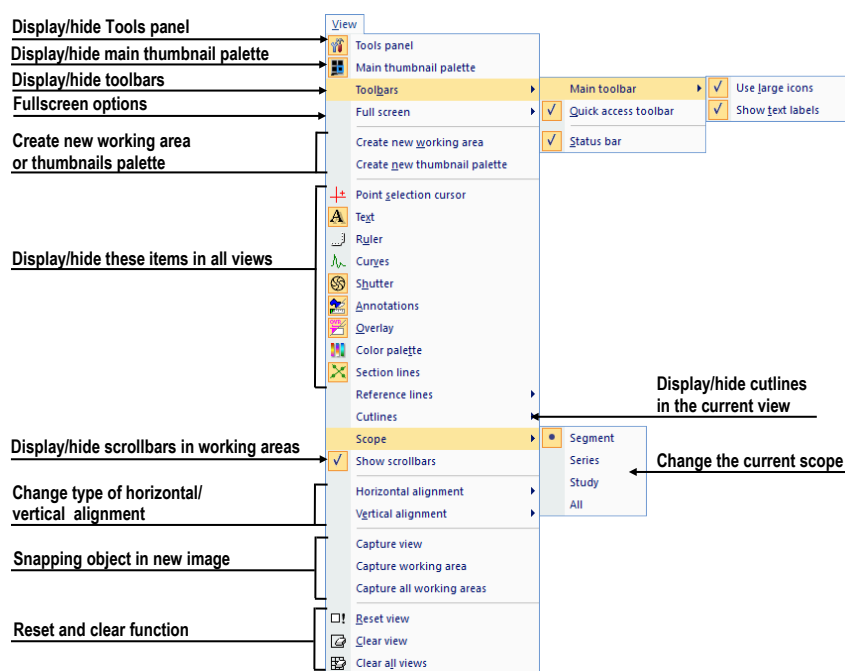

Figure 42 – View menu
- **View** – displaying/hiding toolbars, image descriptions, cutlines, reference lines, scrollbars in working areas, changing the current scope, view size, deleting views, creating new working areas or thumbnails palettes and changing the alignment of the images in the views (see Figure 42).